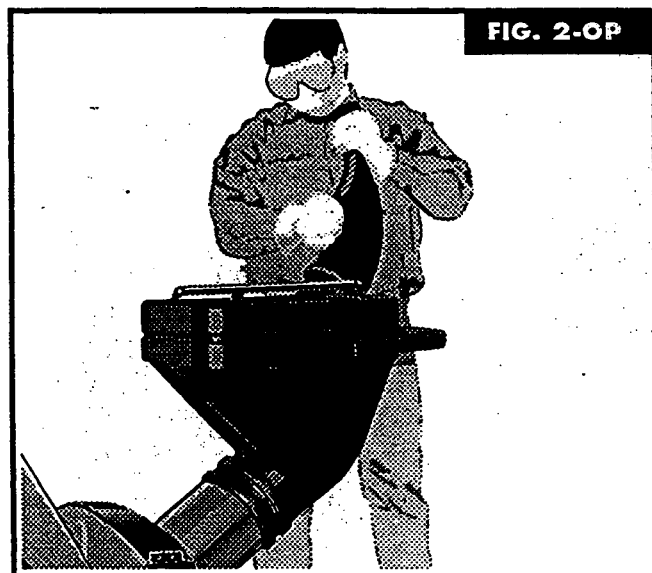

FIG. 2-OP
- Leaves and small branches can be fed into the Hopper assembly when it is in the raised position (See FIG. 2-OP). If it becomes necessary to push material into the Chipper/Shredder, use the supplied debris tamper - **NOT YOUR HANDS**.